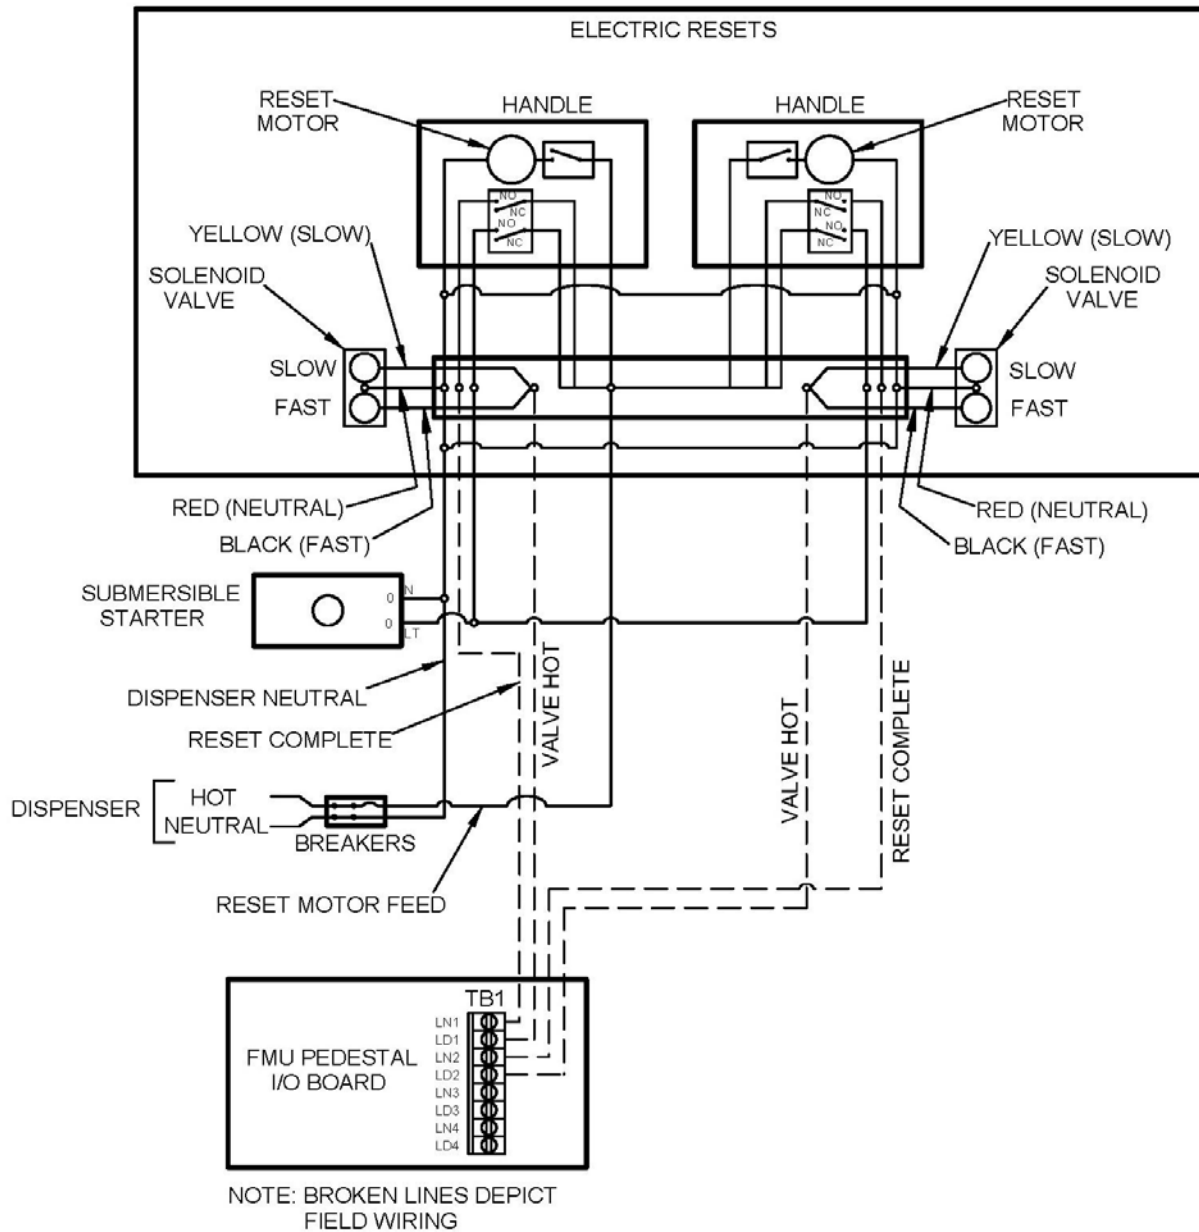

Figure 4-10. Wiring Diagram – Controlling Solenoid Valves
- c. **Controlling Solenoid Valves.** See Figure 4-10. When controlling a classic or DoD FMU, and pump handle detection is needed, the control method most likely used will be controlling motors or controlling solenoid valves. When solenoid valves are present, they should be controlled. There must be one solenoid valve per hose. Solenoid control interrupts power from the dispenser reset mechanism to a solenoid valve. This control method has a drawback. It will permit dispenser reset and pump motor activation without authorization. If a user does not turn off the pump handle when the transaction is complete, the reset and pump motor will continue to run. This can result in a pump motor overheating. Pump handle detection is possible from all variations of FMUs.
Solenoid valves may be single or two-stage. A two-stage valve is illustrated in Figure 4-10. Single stage valves will have two wire leads which are not polarity sensitive, usually both black. Power is wired to one lead, and neutral to the other. Two-stage valves have three leads: a neutral and separate inputs for the fast and slow side of the valve. Presets for retail transactions will make use of two-stage valves to ensure credit card payments by retail customers don't exceed the requested amount. When the two-stages do not need to be separately controlled, they may be tied together as shown in Figure 4-10.